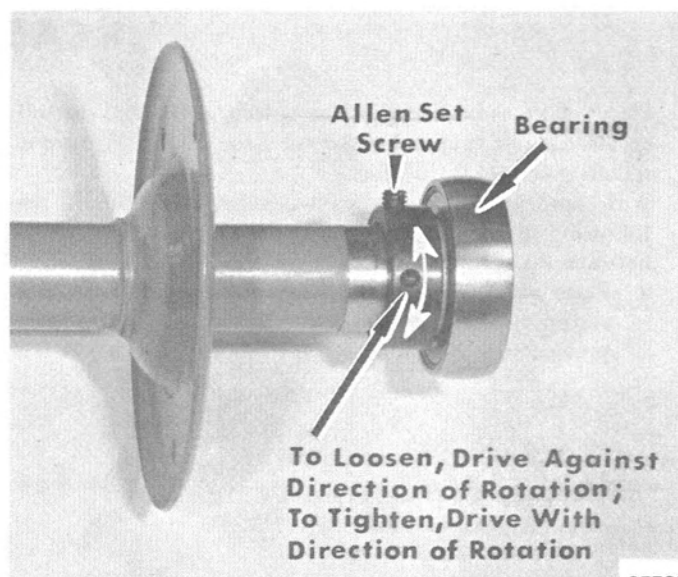

Figure 5. Securing Locking Collar
4. Secure locking collars to eccentrics on inner bearing races of left side bearing by tapping in direction of rotation. (Figure 5)
5. Loosen allen screw in right side lock collar and loosen collar by tapping counterclockwise with a punch. (Figure 5, above)